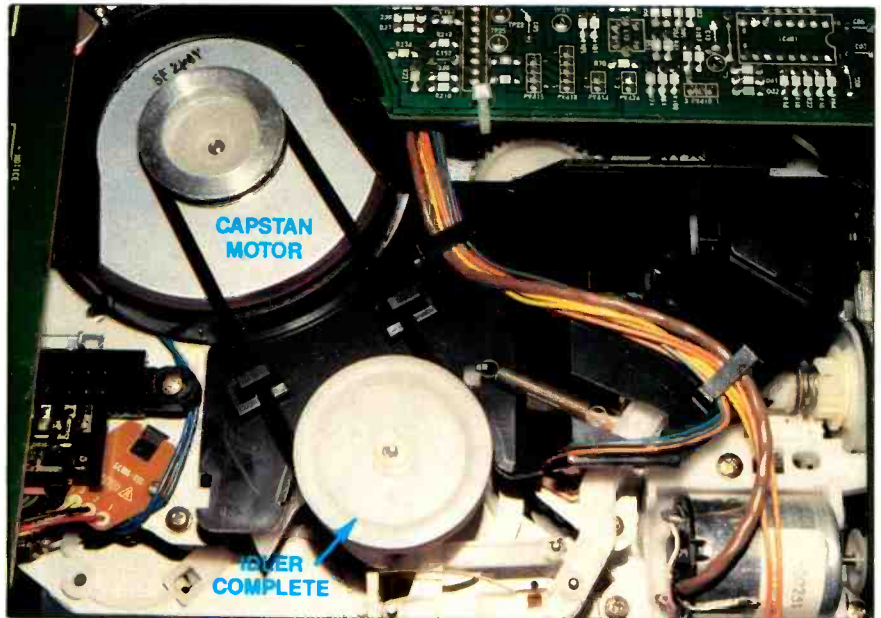
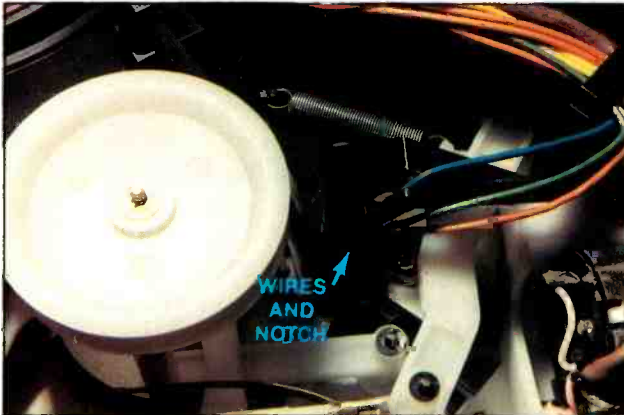

Figure 5. The capstan motor and idler complete assembly are visible from the underside of the VCR.
Figure 6. Move the harness wires out of the notch in the plastic reel assembly bracket.
6. With the cover removed, you can see the capstan motor and gear (idler complete) assembly (143-2-7504-00400 or 00600, depending upon the VCR). Refer to Figure 5. Remove the drive belt and work the harness wires out of the notch in the plastic reel assembly bracket. (See Figure 6.)
11. To reassemble the VCR, follow the disassembly steps in reverse order. When replacing the idler wheel on the shaft, make sure that the gear is to the left and that the left arm of the "wishbone" is on the left side of the metal (brass) attached to the idler arm control. (See Figure 5.) It is also recommended that you grease the idler and reel shafts during reassembly.